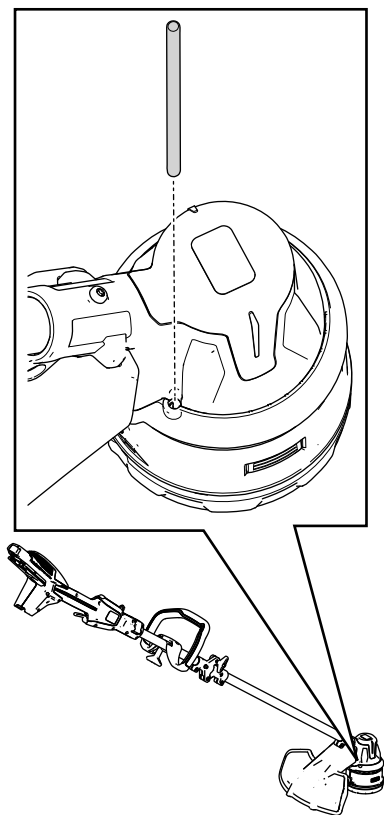

Figure 21
2. Insert a small-diameter tool (such as a screwdriver) through the motor housing and into the groove in the fan to secure the trimmer head so it does not freely rotate (Figure 21).